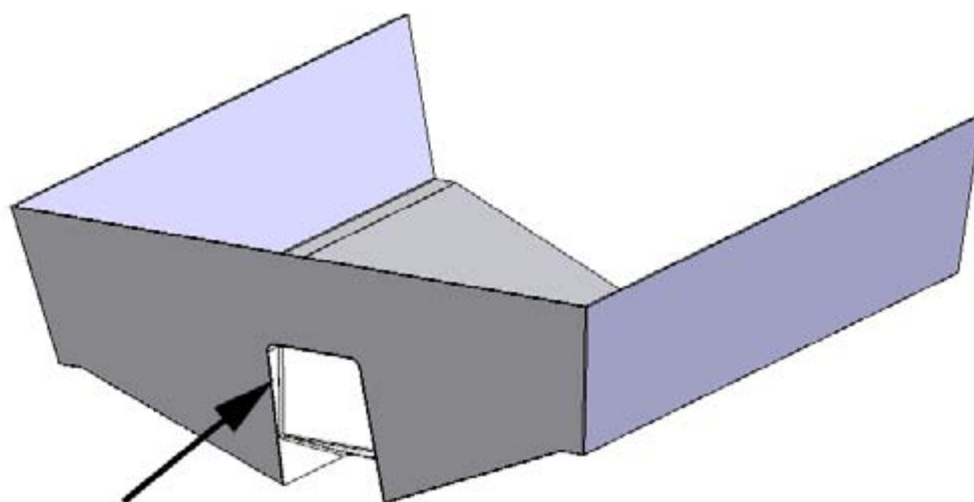

Figure 12. Excess collar
10. Cut off the excess collar on the mounting template outside the stern (figure 12).